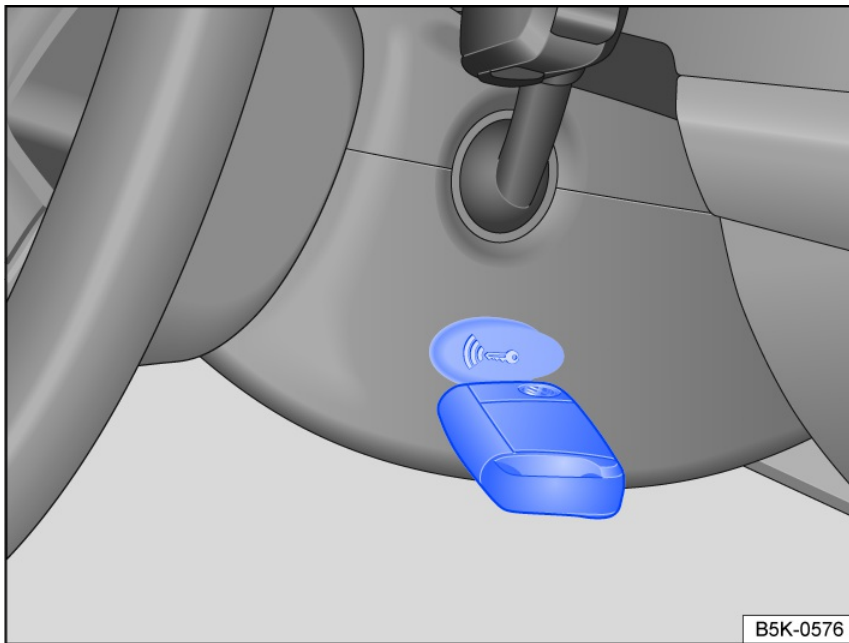

Fig. 113 On the right side of the steering column: emergency start function on vehicles with Keyless Access with push-button start.
- Hold the vehicle key on the right side of the steering column trim panel immediately after pressing the starter button fig. 113.